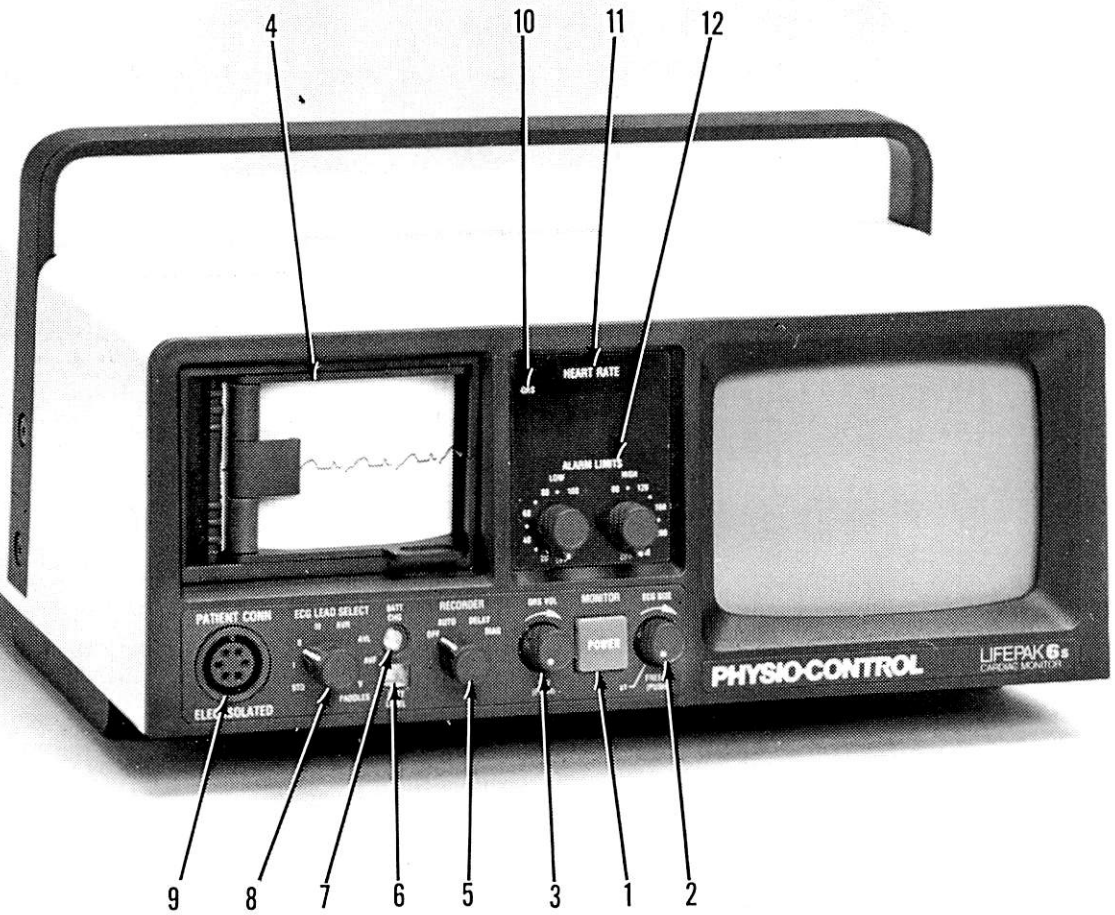

FIGURE 2-1. ECG MONITOR UNIT CONTROLS AND INDICATORS
- A. The controls and indicators for the ECG Monitor unit are shown in Figure 2-1. Each control and indicator in the figure corresponds to the listing in Table 2-1. The table lists each control or indicator and briefly describes its functions.